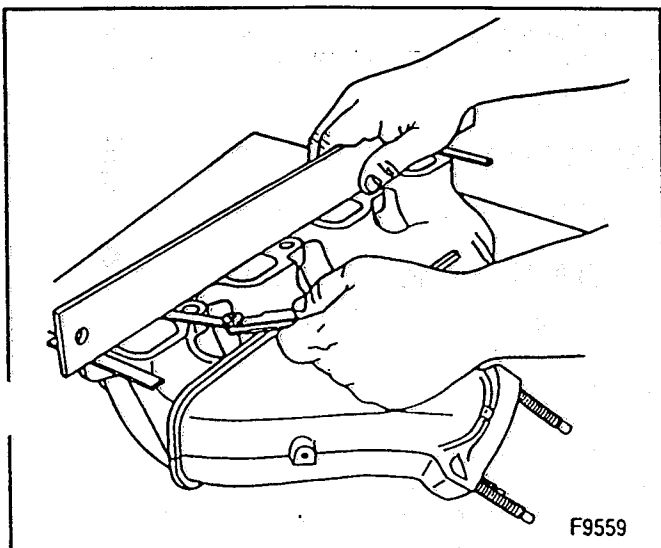

Figure 46—Checking Alignment of Manifold Flanges
Inspect (Figure 46)
- Alignment of exhaust manifold flanges. Use a straight edge and feeler gage (figure 46). If the flanges do not align, the manifold is warped and should be replaced or resurfaced.
- Camshaft journal out-of-round. Use a micrometer (figure 46). If the journals are more than 0.00254 mm (0.001 inch) out-of-round, replace the camshaft.